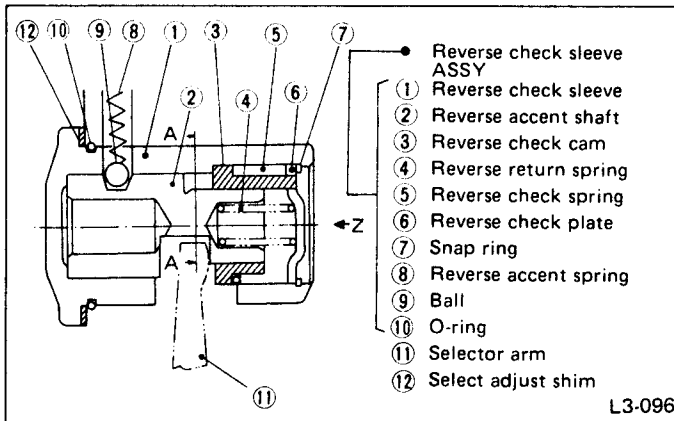
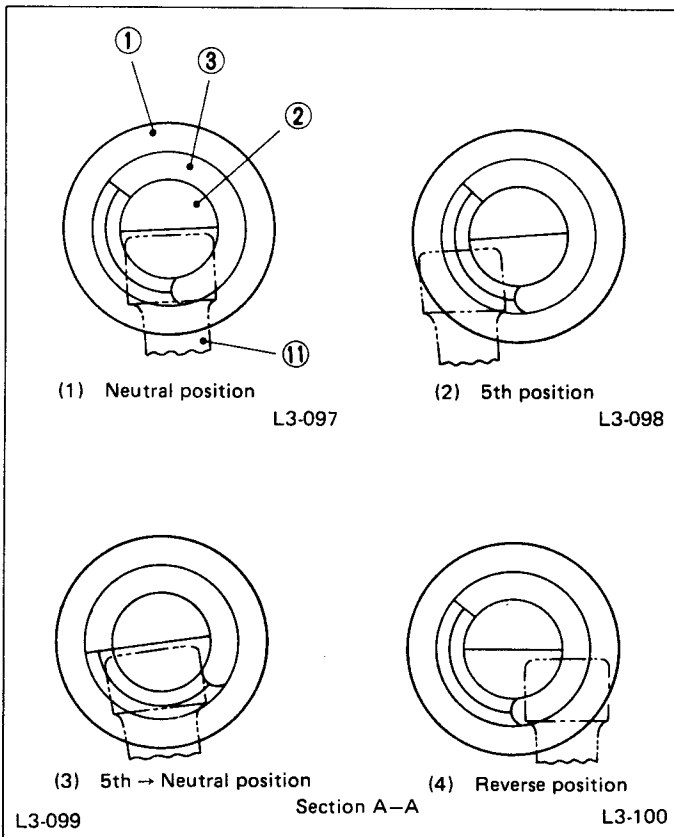
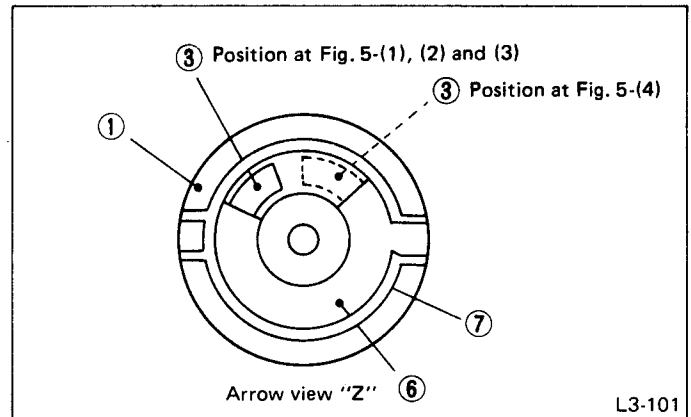

Fig. 4
Fig. 5
Fig. 6
- The sleeve ① is bolted to the transmission case. The shaft ② is inserted in the sleeve ①. On the smaller-diameter side (right side in Fig. 4) of this shaft ②, the cam ③ is loosely mounted so that it can rotate, and the sleeve ① holds the cam in place with its stepped part. The spring ④, which is inserted in the shaft ② presses the shaft to the left. Further, the spring ⑤ is placed in between the cam ③ and sleeve ①, which forces the cam ③ to the left and in the direction of rotation. Both springs are held down with the plate ⑥ that is attached to the sleeve ① with the snap ring ⑦. The shaft ② has a groove for reverse accent, in which the ball ⑨ and spring ⑧ are put through a hole drilled in the sleeve ①.
- As shown in Fig. 5, the sleeve ① and shaft ② have a notch, and the arm ⑪ is placed between the notches. The position of the arm ⑪ shown in Fig. 4 is the neutral position (hereafter referred to as **N** position). The point where the arm stops when moved to the left is the 1st and 2nd position. Opposite this, the point where the arm stops when moved to the right is the 5th and reverse position. Fig. 5 shows the section A-A in Fig. 4, and Fig. 6 the view Z in Fig. 4.
The arm ⑪ pushes the shaft ② and cam ③ simultaneously and moves to the 5th and reverse side, as shown in [Fig. 5-(1)].
As shown in [Fig. 5-(2)], the arm ⑪ moves to the 5th side pushing the shaft ②. When the arm ⑪ pulls out of the cam ③, the cam is returned to the original position by the spring ⑤.
As shown in [Fig. 5-(3)], the arm ⑪ moves to the reverse side pushing the shaft ② and runs against the cam ③ that has already returned. The cam ③ has, as shown in [Fig. 6], a stopper, which hits against the plate ⑥. Thus, the cam ③ cannot rotate further. Accordingly, the arm ⑪ comes to a
From the position shown in [Fig. 5-(1)], the arm ① again moves to the 5th and reverse side. When the shift is made to reverse, the arm ① moves to the reverse position while pushing the shaft ② and cam ③ together.